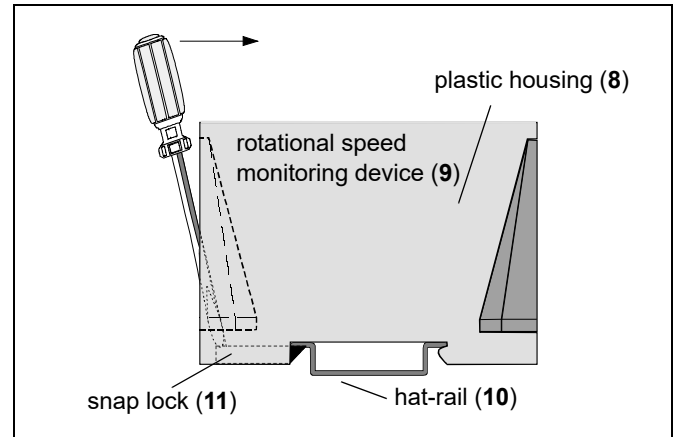

Fig. 5-7: Dismounting from a hat-rail
4. Insert a screw driver into the eye of the snap lock (11) and press it against the plastic housing (8) (s. fig. 5-7). The device is free and can be removed from the hat-rail (10).